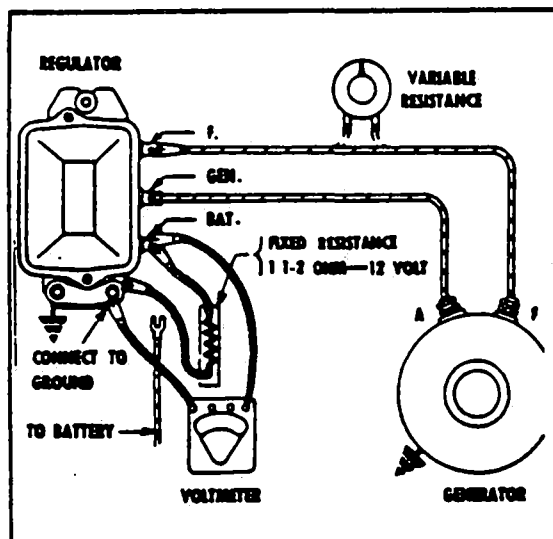

Figure 11-7. Checking Voltage Setting Fixed Resistance Method
b. Voltage Setting: There are two ways to check the voltage setting; the fixed resistance method and the variable resistance method. (Refer to Figures 11-7 and 11-8.)
(a) Connect a fixed resistance between the battery terminal and ground as shown in Figure 11-7 after disconnecting the battery lead from the